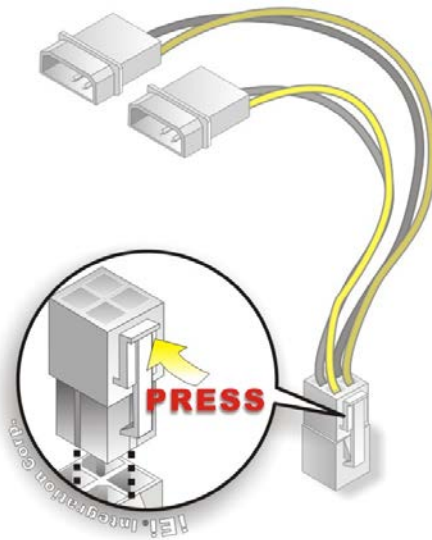

Figure 4-16: Power Cable to Motherboard Connection
Step 2: Connect the Power Cable to the Motherboard. Connect the 4-pin (2x2) Molex type power cable connector to the AT power connector on the motherboard. See Figure 4-16.